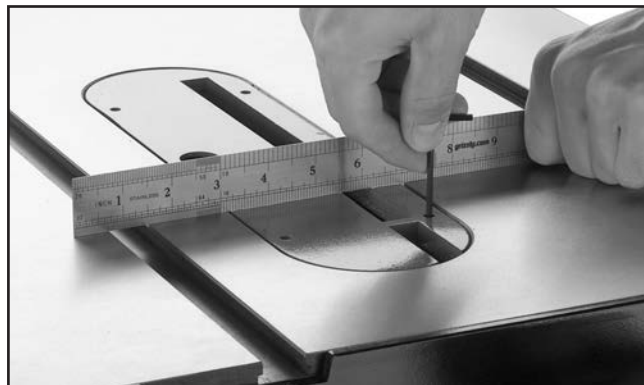

Figure 27. Adjusting insert flush with table.
2. Adjust the table insert set screws to make sure the insert is flush with the table, using a straightedge as a guide, (see **Figure 27**).